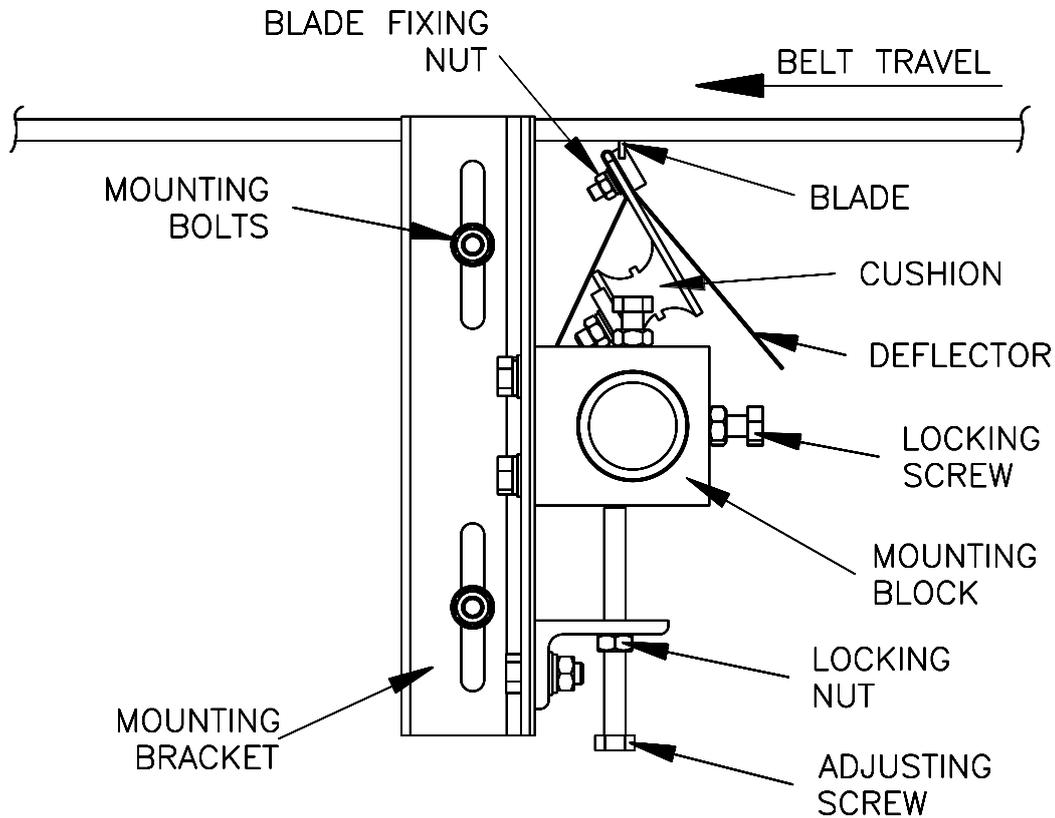

Figure 1 - General Arrangement of Mato MCS2 Type Cleaner
- The mounting brackets should be perpendicular to the belt as shown in Figure 1.